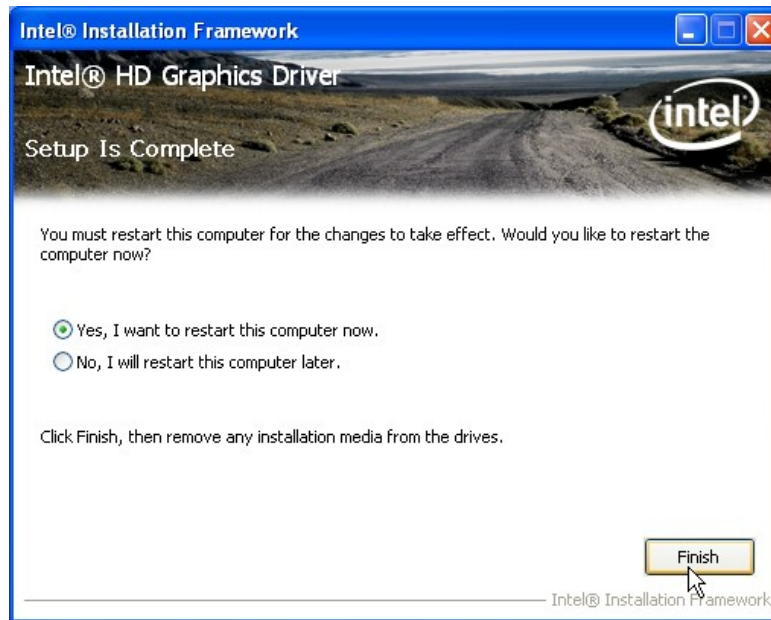

Figure 6-13: Graphics Driver Installation Finish Screen
Step 11: The **Finish** screen in **Figure 6-13** appears.